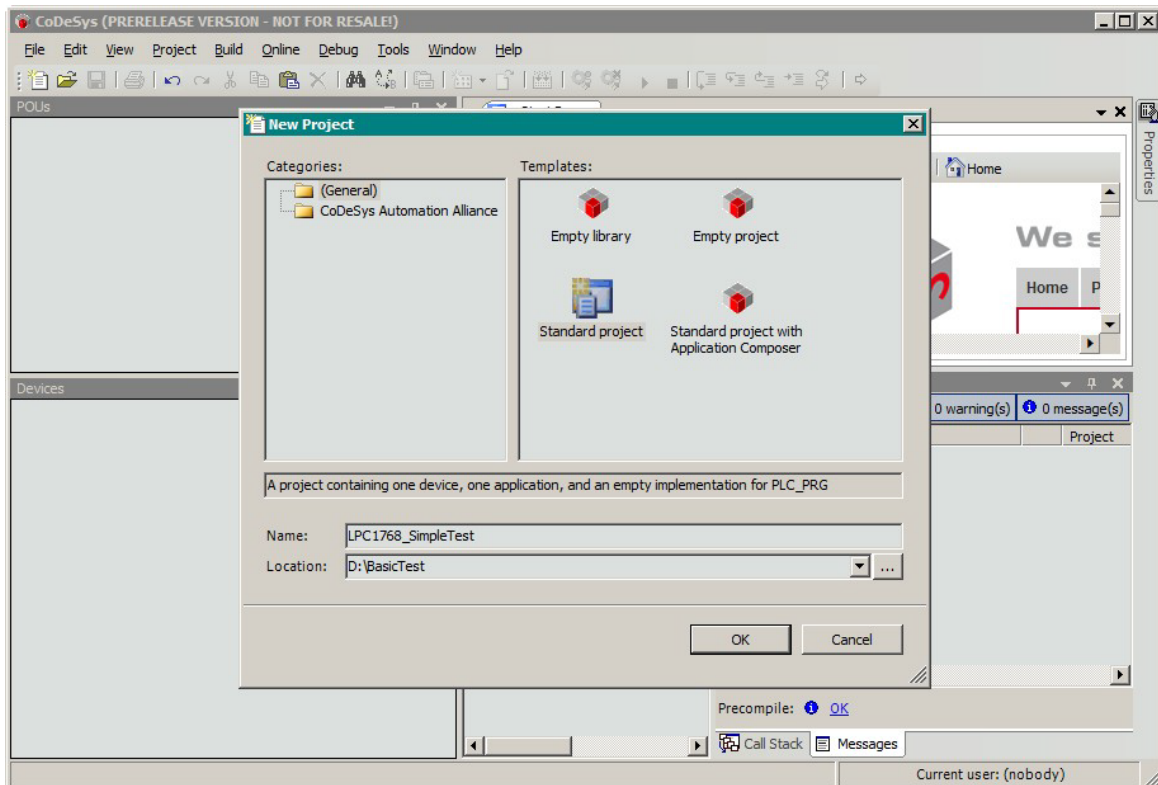

Figure 4. Creating a new project
1. Start CODESYS V3 IDE clicking the **CODESYS V3.5** shortcut in the **3S CODESYS – CODESYS** program group and select **File – New Project** in the CODESYS main menu. The **New Project** dialog box will be displayed on the screen as shown in Figure 4.